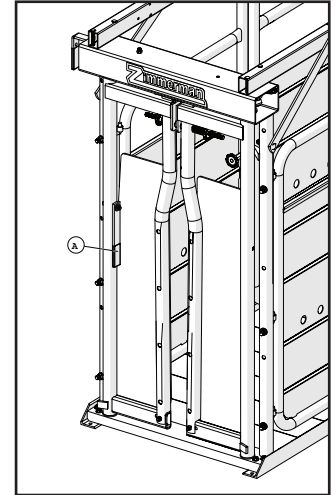

Figure 2: Manual door handle
2. For slow or timid animals, the headgate features a handle (a) to manually close the doors (Figure 2).